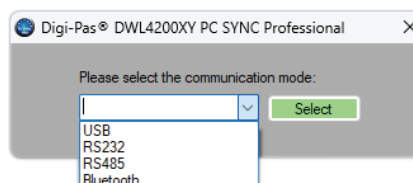

Figure 20. Select mode from the drop down menu
2. Connect the custom cable with sensor cord and ES-U-3001-M converter as in following connection pinout illustrated in Figure 20.
1. Assuming steps stated in 3.2 Configuration of Sensor Module(s) with Control Box and 4.1 Installation of the DWL4x00XY PC Sync Software have been done in this stage. Open PC SYNC software and select the desired mode from the drop down menu as shown in Figure 20. In this example, RS485 is selected.